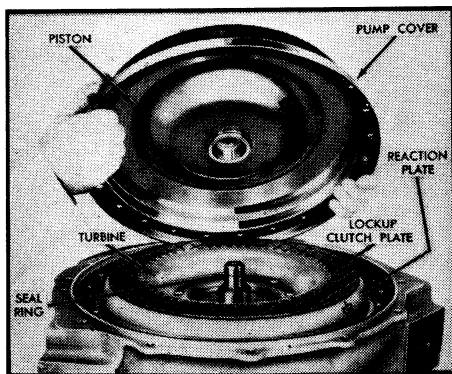

Fig. 15 Converter pump cover installation
11. Install turbine on turbine shaft, Fig. 15.
12. Install snap ring and hook-type ring seal on turbine shaft, Fig. 15.
14. Install reaction plate, Fig. 15. *If inked balance marks are found on reaction plate, converter pump, lockup piston and pump cover, assemble the parts with the marks aligned.*
15. Install lockup clutch plate on reaction plate with internal teeth engaging turbine splined ring, Fig. 15.